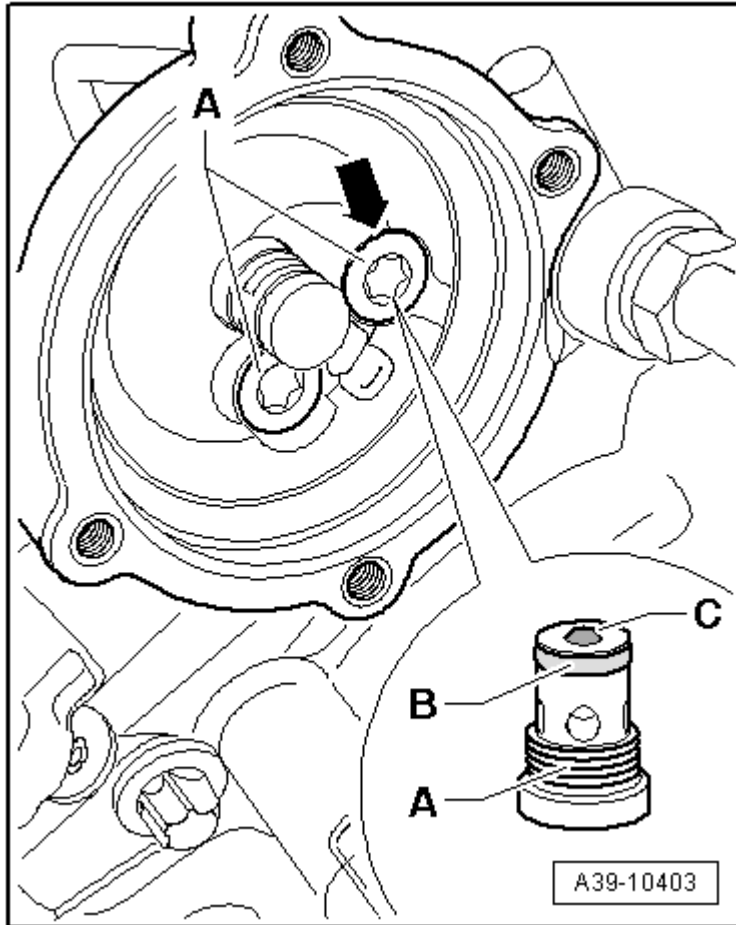

Fig. 170: Removing And Installing Shuttle Valves
- Insert into the guide before installing, refer to item 16
- Insert into the hole in the shuttle valve, refer to item 21 before installing
- Removing and installing, refer to **Fig. 170**